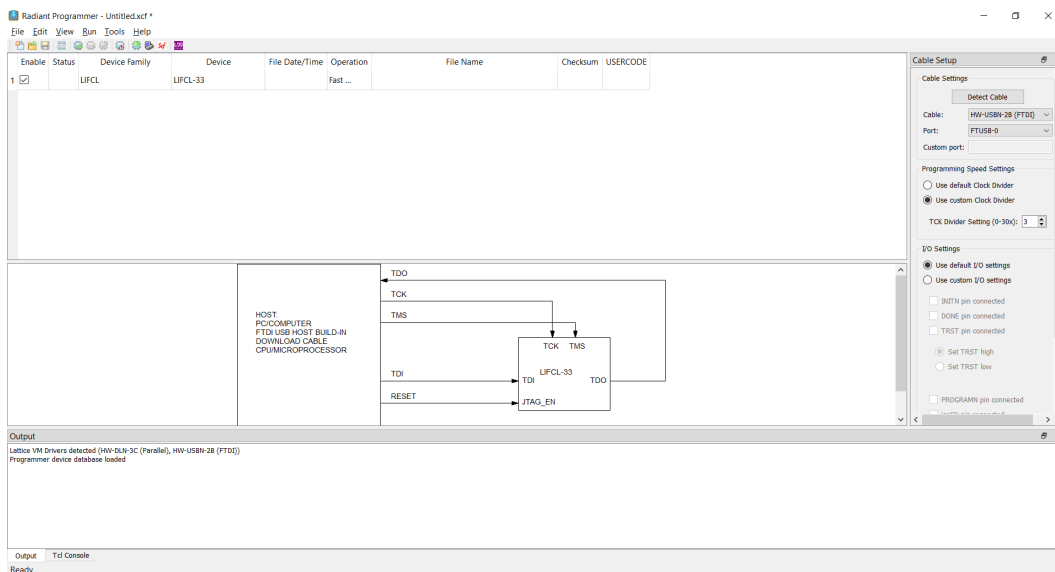

Figure 2.3. Radiant Programmer Main Window
3. Select **Create a new project from a scan**, click **OK**. Figure 2.3 is displayed.